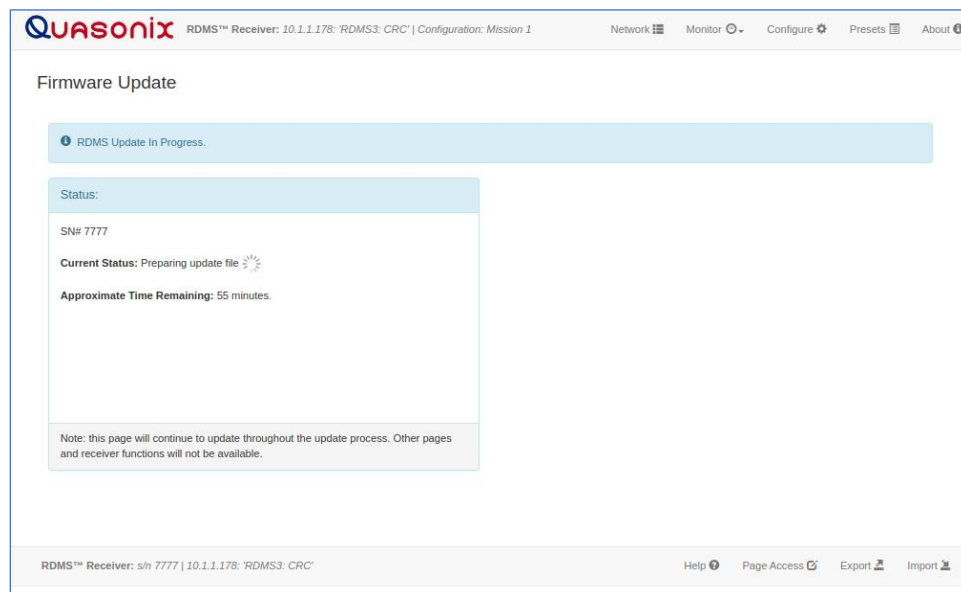

Figure 143: Firmware Update In Progress, Status
- During the update, the status and approximate time remaining will display, as shown in Figure 143.